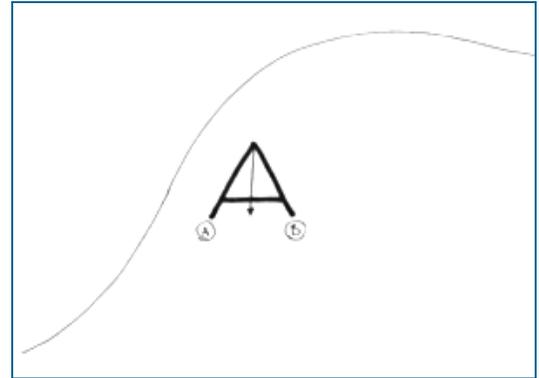

Figure 15.
- A. You can use your new A-frame level to mark a contour across a slope. Begin by placing the A-frame where you want to start the contour line. Adjust the second leg of the A-frame until the plumb bob rests over the center line and then mark where the two legs for the A-frame rest (positions "A" and "B" in Figure 15).